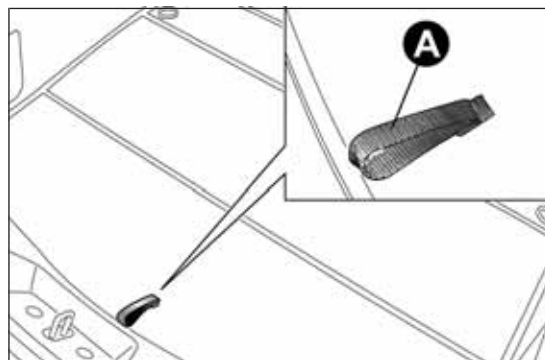
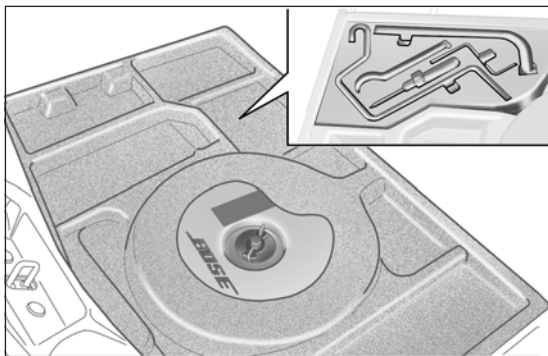
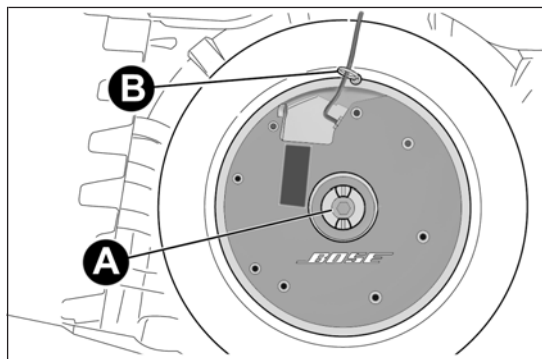

fig. 121
fig. 127
fig. 129
- open the luggage compartment, pull tab A fig. 121 and lift up the mat;
On these versions, the tools needed for changing the wheel are arranged in a specific container on the left-hand side of the boot (see fig. 127).
- open the boot, pull the tab A fig. 121, lift the mat upwards and remove the load compartment shim fig. 127;
- loosen the fastening device A fig. 129, remove the clip B fastening the cable and then lift the subwoofer;
- ☐ reposition the subwoofer wire correctly to avoid pinching it. Then fasten the clip B fig. 129 and fasten the blocking device A. Finally, position the load compartment shim fig. 127 correctly and lower the boot mat.